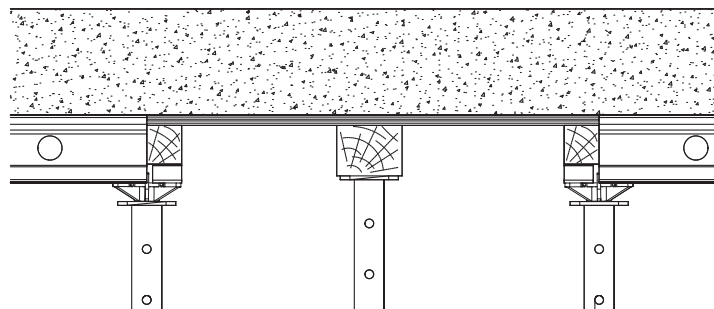

Fig. 14.26
9. When the distance between the girders is larger than the permissible limit (which depends on the ceiling thickness and the permissible possible deformation - see table 3) then you should additionally prop the formwork plywood in the middle of its span. It can be propped with the construction props and the wooden square timber (fig. 14.26).